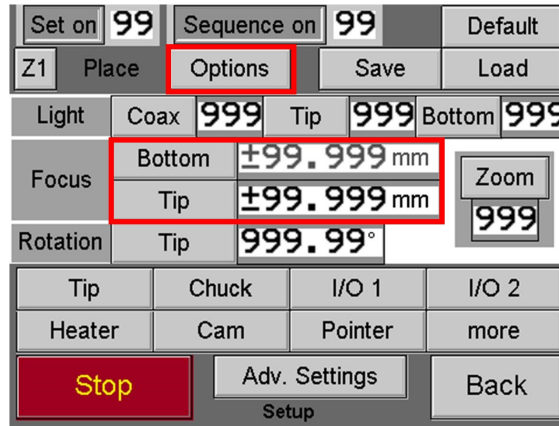

Figure 3: Basic operation: Setup screen
4. Go to Setup (**F2**) and select your **Set** (or create a new one) in the top-left corner (see Figure 3).